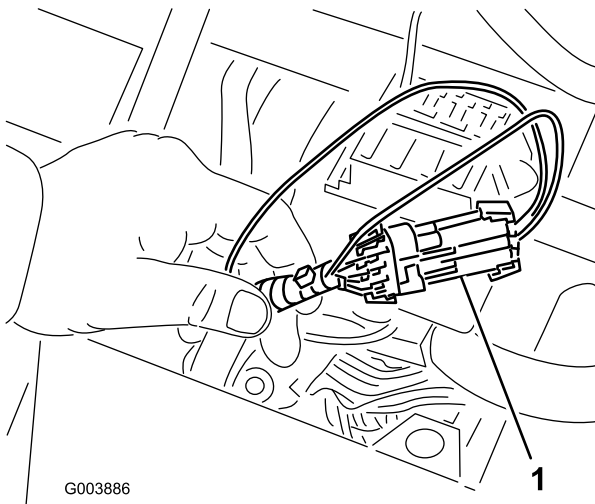

Figure 38
3. Locate the wire harness and connectors near the controller (Figure 38).